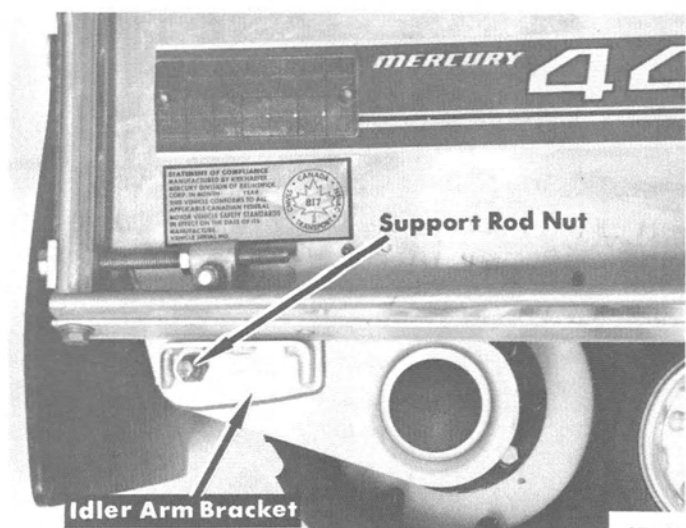

Figure 1. Idler Arm Bracket
4. Connect bogie tie-down strap. (Figure 1, preceding)
5. Remove nut, which holds support rod, from either idler arm bracket. (Figure 1)